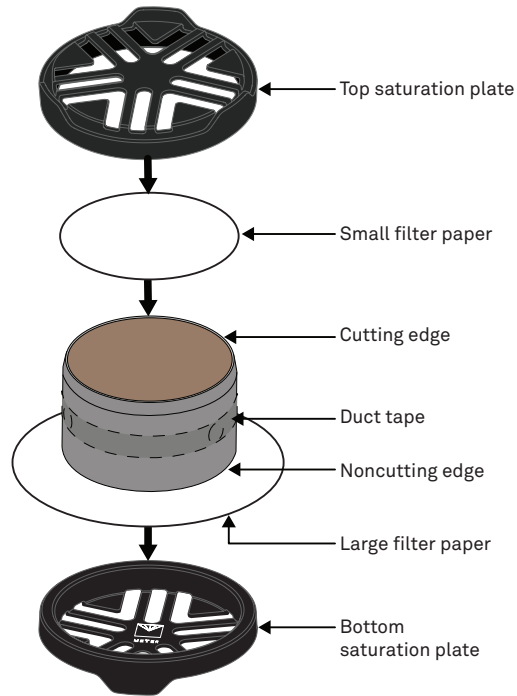

Figure 5 Sample setup
- Hold the filter paper and LABROS saturation plate together and turn the sample ring over so the cutting side faces down (Figure 5).